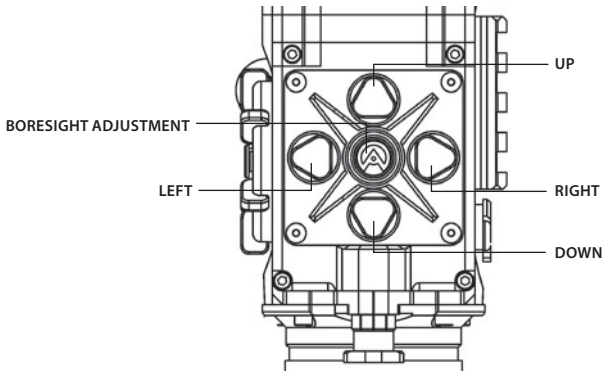

FIGURE 3-17. BORESIGHT ADJUSTMENT BUTTONS
9. Use the buttons on the control panel to apply corrections required to bring the center of impact as close as possible to the target center (refer to Figure 3.17).